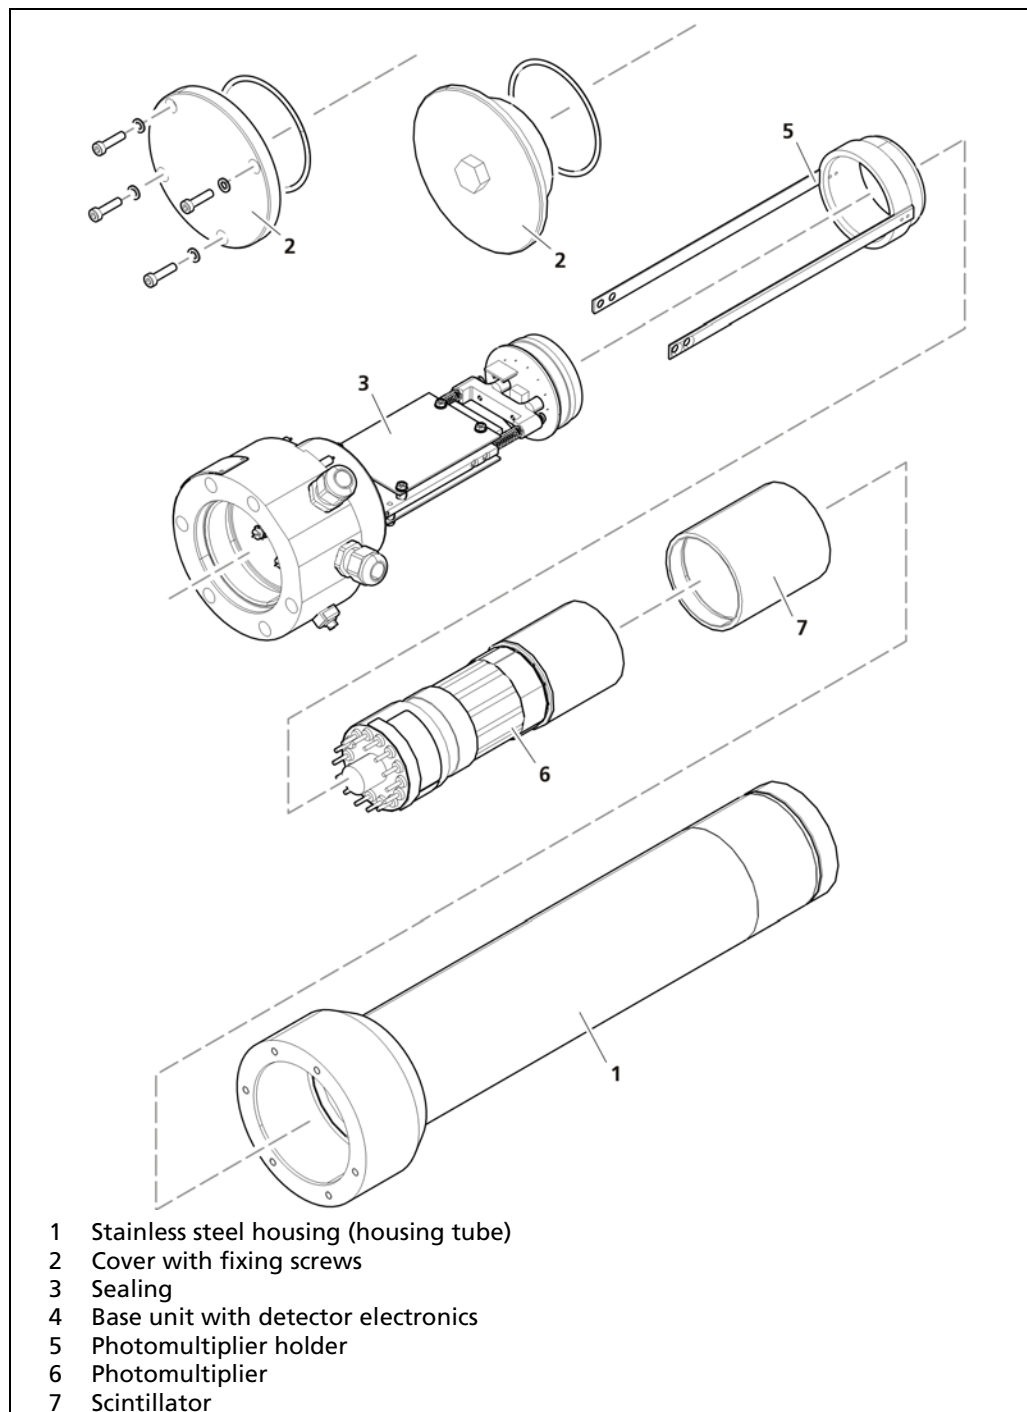

Fig. 55 Removing Detector Electronics
13. Click on the button <Program Flash> (Fig. 55, item 1).